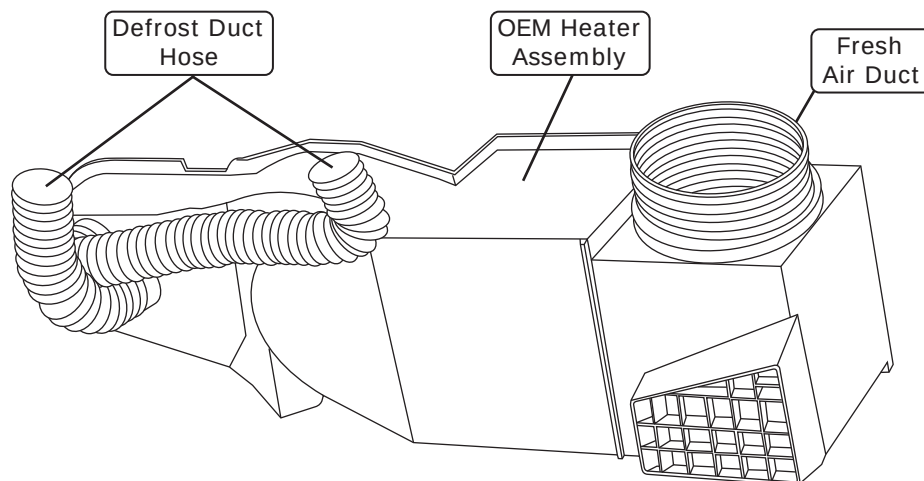

Figure 2
6. Remove the OEM heater assembly (discard) (See Figure 2, below).